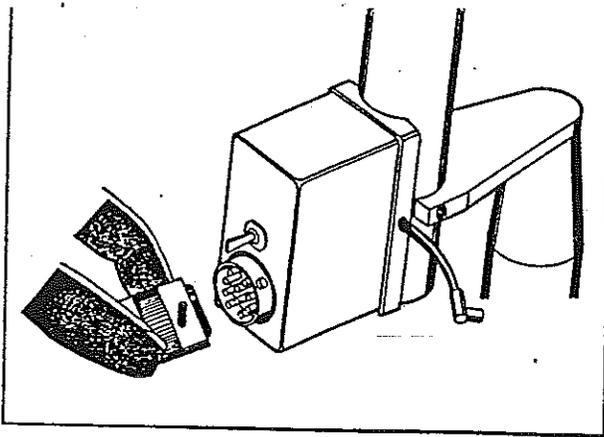

Fig. 14
- (c) Disconnect the power cord from the Flash Head (rotate the bright knurled ring anti-clockwise) (Fig. 14).